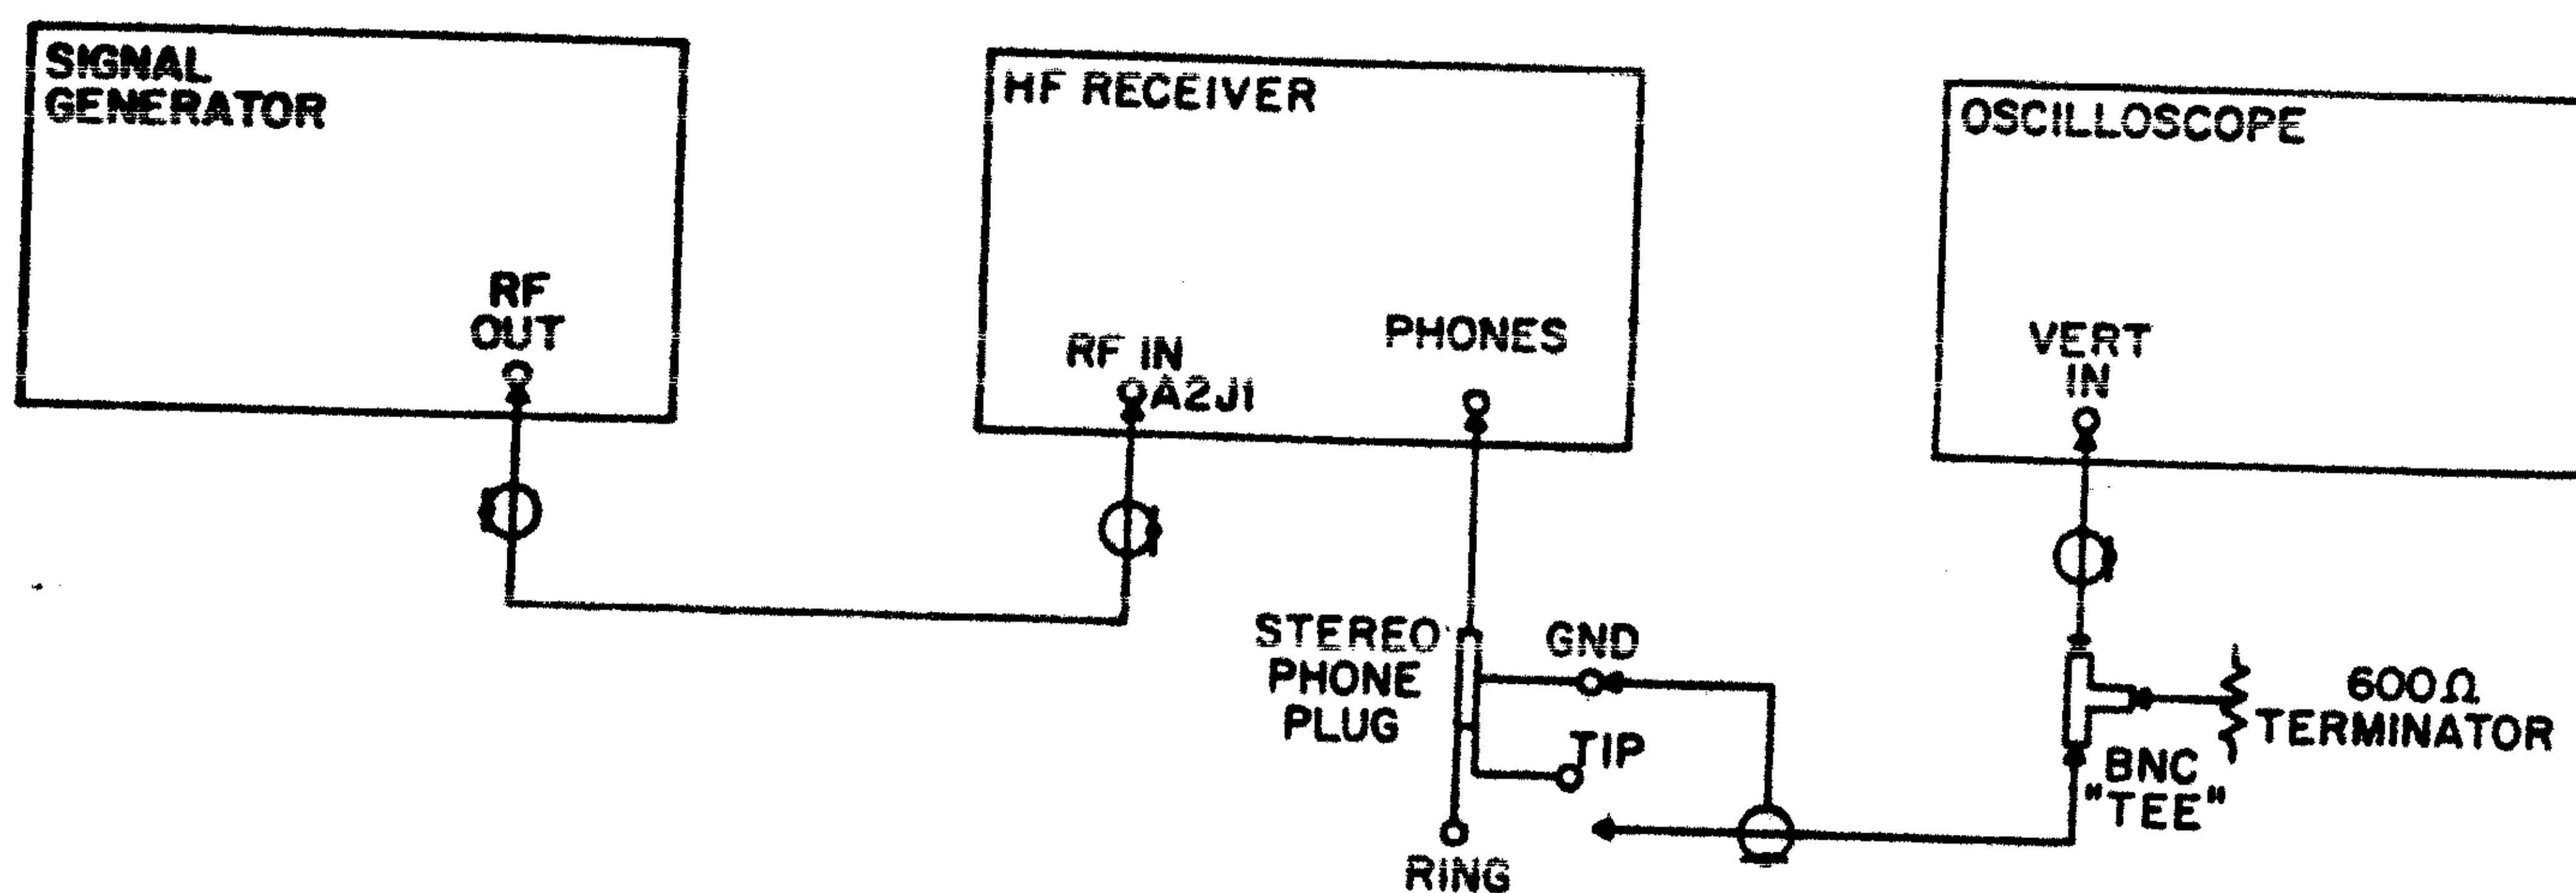

Figure 4-8. ISB Detector/Audio Adjustment, Test Setup
1. Deenergize the receiver and connect the equipment as shown in Figure 4-8.